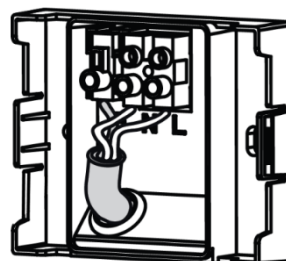

Fig.3
- Terminate the mains supply cable into the terminal block ensuring correct polarity is observed: Brown – Live, Blue – Neutral, (there is a non-functional earth terminal provided for convenience).(see Fig.3)